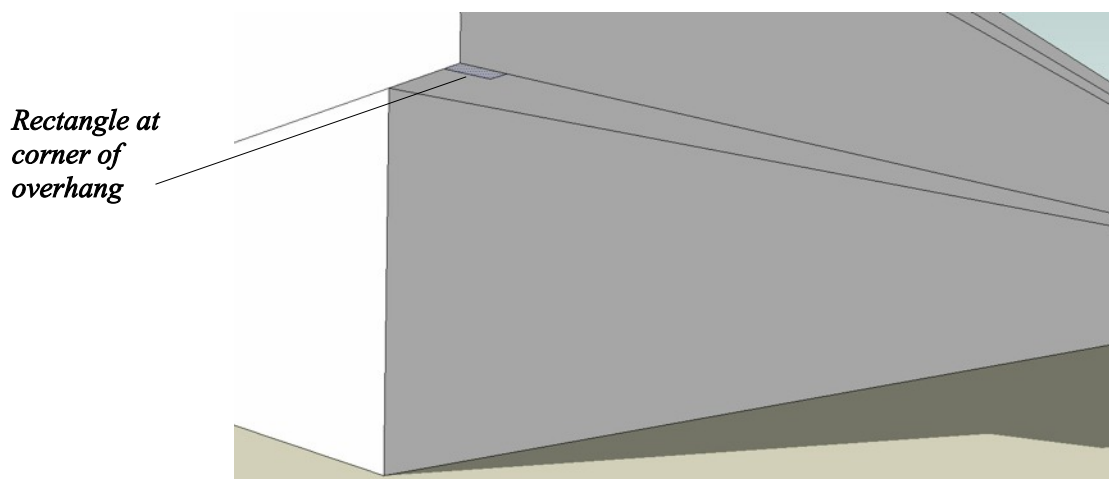

Figure 45. Rectangle at the corner of the overhang on Building 3
- Use **Push/Pull** to zoom to a position as shown in Figure 45 and draw a rectangle 450x250 on the underside of the overhang.